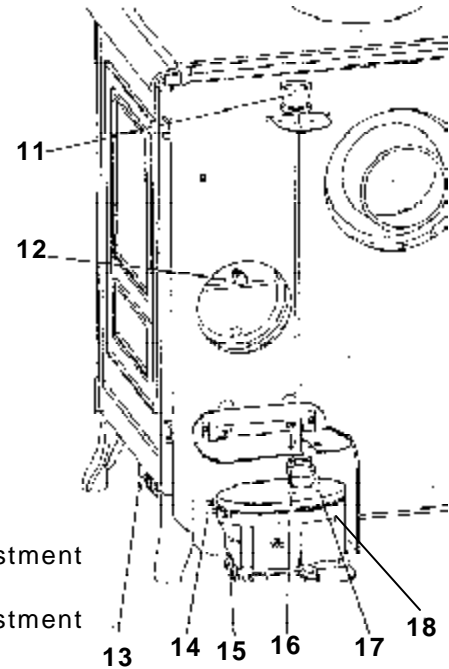
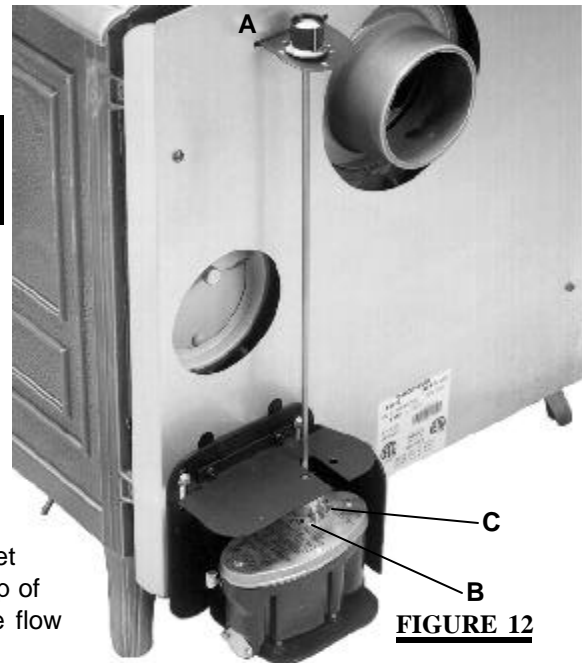

FIGURE 9
FIGURE 12
These segments work together to create the chimney draft. To alter one of them will affect the other two and change the amount of draft in the chimney and ultimately the stove's performance. To ensure that adequate chimney draft is maintained, the chimney should be kept clean and without cracks. As soon as the oil stove has been installed, the chimney draft should be checked with a draftmeter. In order to insert the draftmeter probe into the chimney connector, drill a ¼" hole at the rear of the connector joint approximately 6" from the rear of the flue collar. This may then be sealed with a screw once all testing has been completed. Flue draft is measured when the oil stove is hot (after a minimum use of 30 minutes) to establish a true reading of the draft. For the recommended operating draft level, see 'General Information' on page 4. Draft adjustment can be made through use of the draft regulator located at the back of the oil stove (**item 12, figure 9**). In the event that the chimney draft is excessive or irregular, a draft stabiliser should be fitted to the chimney.
In the center of the burner is the catalyser (C) which aids in vaporizing the fuel. When the stove is operation, the catalyser glows red. The stove should not be used without both the catalyser, catalyser top (D) and ring (E). To the right of the unit, just below the side panel is a small push rod called a de-scaling lever, (**item 13, figure 9**), that should be pushed and pulled in and out as well as turning slightly at the same time to keep the inlet pipe clear of carbon buildup. This should be done on a weekly basis.
ADJUSTMENT AT MINIMUM SPEED: Turn the control knob 'A' to the # 1 dial setting and allow the burner to run for a few moments. The flame must completely cover the bottom of the burner pot and the catalyser should glow red. If the flame is too small, the oil stove will quickly soot up. Turn the set screw 'B' **FIGURE 12 (item 16, Figure 9)**, located on the top of the carburetor, clockwise with a screwdriver to increase the flow of oil.
ADJUSTMENT AT MAXIMUM SPEED: Gradually turn the control knob 'A' to dial setting # 6 and allow the burner to run for a few moments. The flame should be in a cone form with the top level with the upper part of the door. If the flame is too low, the oil flow rate should be increased by turning the set screw 'C' **FIGURE 12, (item 17, Figure 9)** on the carburetor counter-clockwise. If the flame is too high, turn the screw clockwise. The flames should have only occasional contact with the burner ring. The bottom 2" (50 mm) of the flames should be blue in colour with the rest yellow.